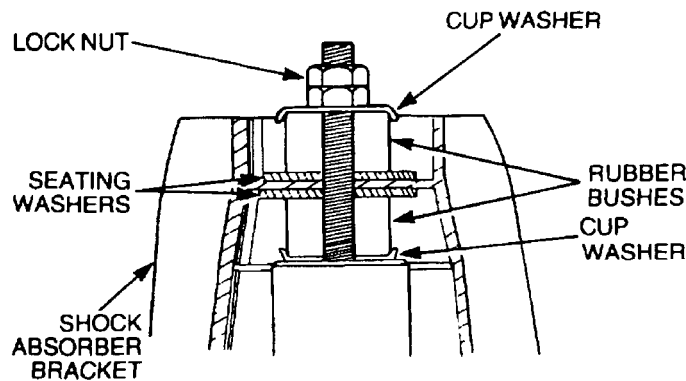

Figure 125 Front Shock Absorber Installation
- b. Install new bushes and the washers (Figure 125).
- e. Fit a seating washer, rubber bush and cup washer and secure them with the nut (Figure 125).
- g. Install the nuts and new lock-washers that secure the shock absorber bracket to the chassis rail and tighten them securely (Figure 125).